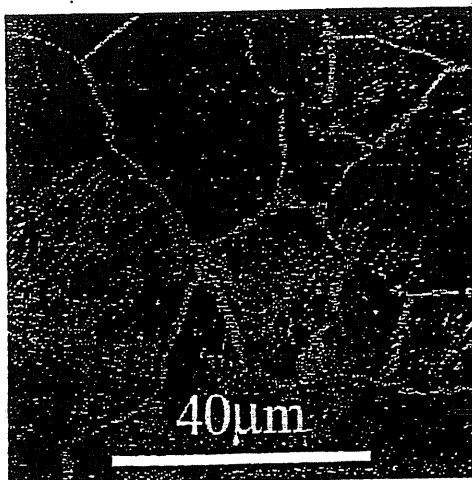

Fig.6(c)
- (1) In Fig.6(c), what is phase revealed by the white area on grain boundaries if the steel contains 0.79% C? (3%)
- (2) Is the rod-like or plate-like dark area the same microstructure as that shown in fig. 6(b)? (3%)
- (3) Estimate the carbon content of the phase revealed by the white area along grain boundaries (3%)
- (4) Which is the primary phase forming during cooling from Austenite, the white one or the plate-like one? (3%)